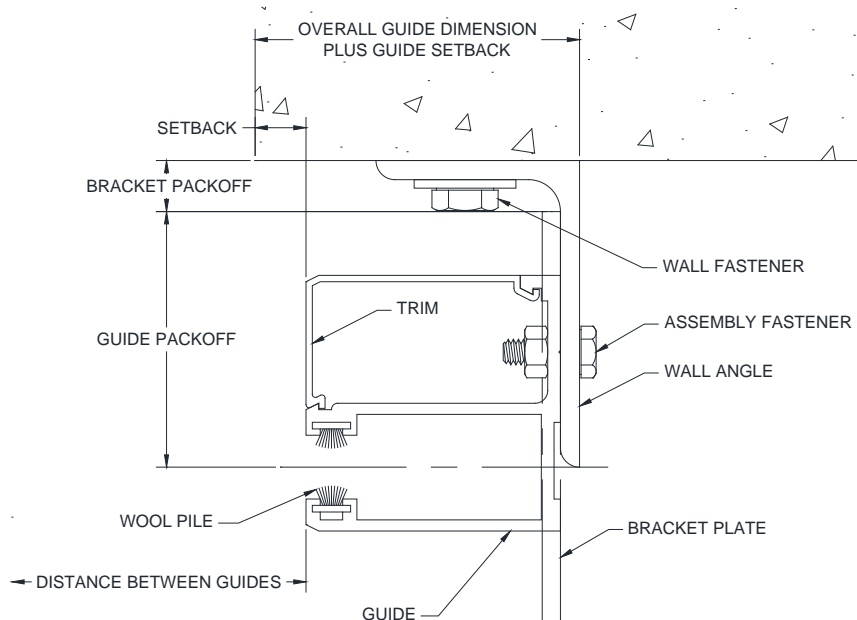

Figure 5.1 – Face of Wall “E” Guide
▪ **Face of Wall Units Mounting to Existing Wall Construction (Figures 5.1 - 5.2):**
2. Measure the distance from the opening/jamb to the heel of the wall angle (on "E" guides) or the toe of the wall angle (on "Z" guides). This distance is referred to as the "Overall Guide Dimension plus Guide Setback"; see **Figures 5.1** and **5.2**. See the job construction drawings for the guide setback and overall guide dimensions.